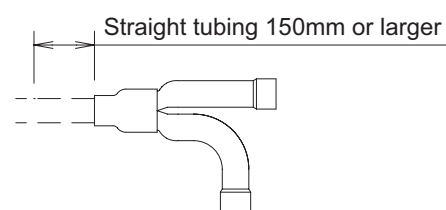

Fig. 2-294
- For branching tubes, install 150mm or larger (including reducer) straight tubing up to the point where the tube branches (or after the point where the tubes join together). (Fig. 2-294)